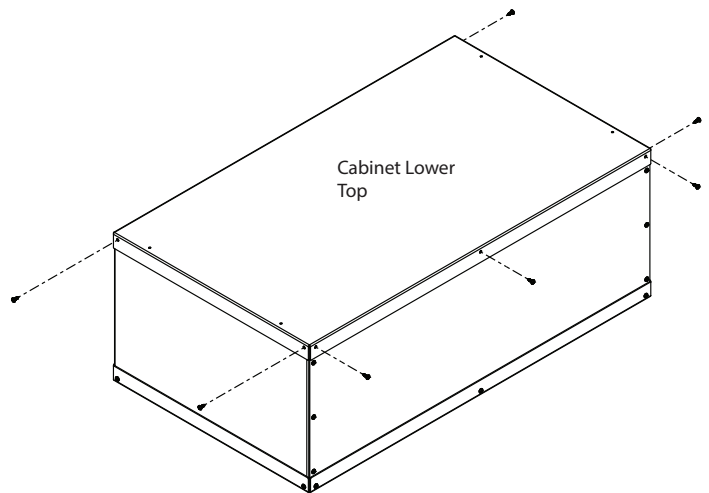

Figure 6.4
4. Assemble cabinet lower top to cabinet lower sides and cabinet lower back using 7 screws. See Figure 6.4.